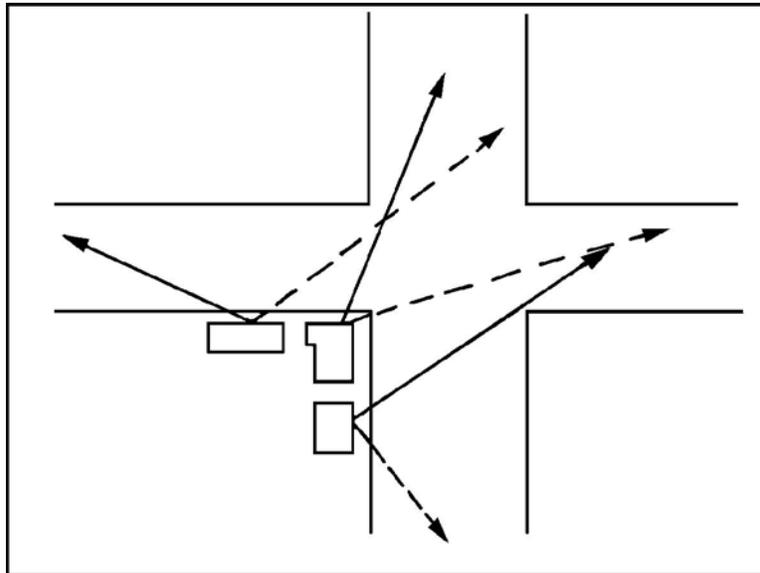
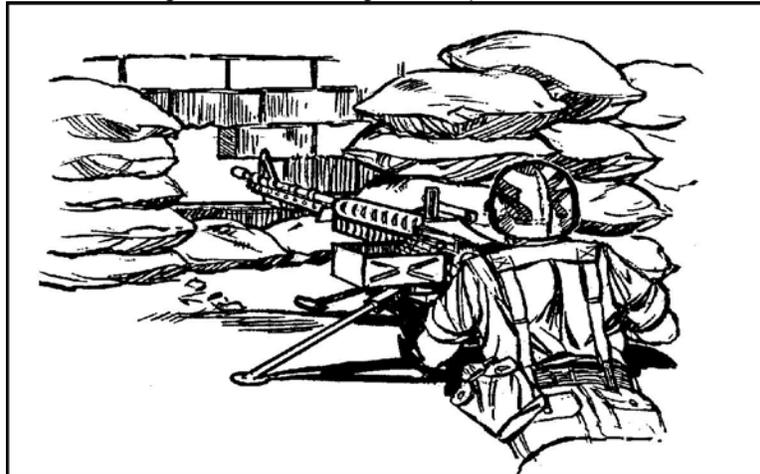

Figure 1. Machine gun final protective fire.
Figure 2. Machine guns at lowest level of building.
- a. M60 machine gun. In the defense, machine guns are best used to cover streets and alleys with grazing fire. Plan final protective lines (FPLs) or a principal direction of fire (PDF) to exploit the longest unobstructed fields of fire (Figure 1). Whenever possible, emplace machine guns at the lowest level of the building to attain grazing fire (Figure 2). Consider emplacing machine guns in basement windows or loopholes in walls. If fields of fire are blocked by rubble, plunging fires may be attained at higher levels.